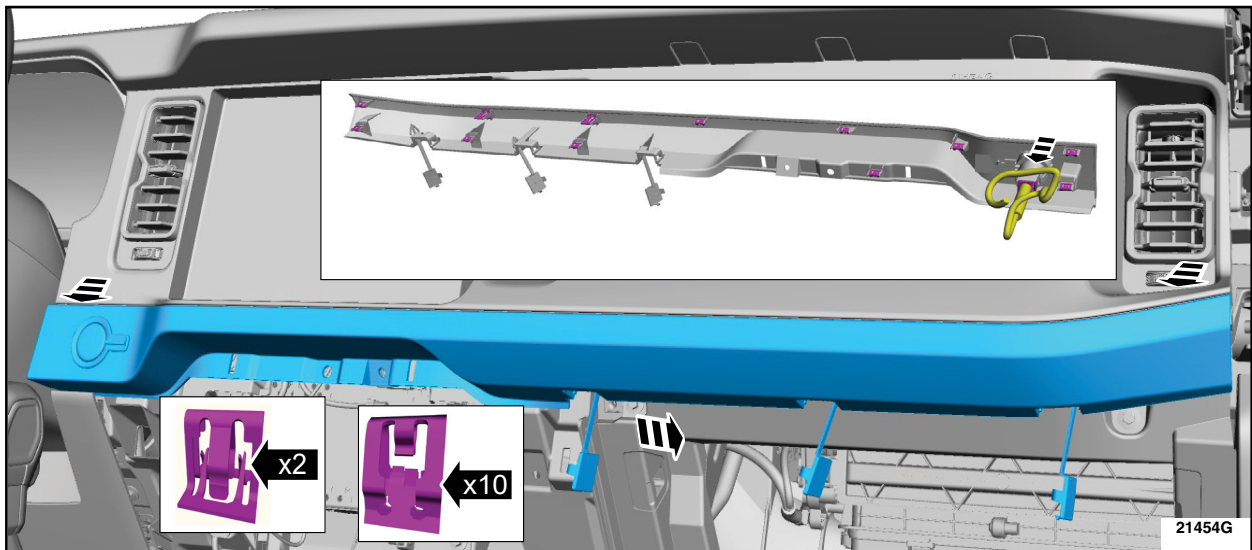

FIGURE 7
**NOTE:** Remove the lower trim panel by releasing the clips starting on the driver side and working towards the passenger side. Slide the lower trim panel towards the passenger side once all clips are released and disconnect the electrical connector to remove the lower trim panel. See Figure 7.